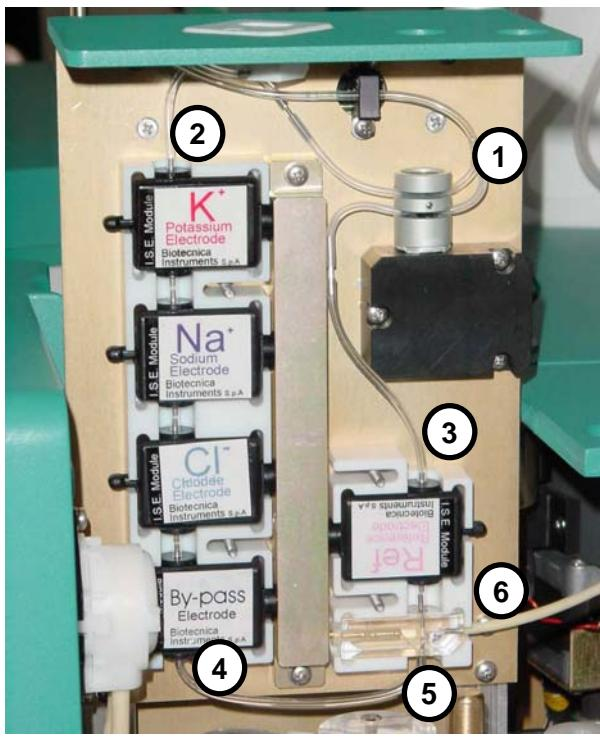

Figure 8
2. Disconnect the tubes **2, 3, 4, 5** and **6** (**Figure 8**) from the electrodes. Remove the housing containing measurement electrodes (K, Na, Cl, By-pass or CO₂) by gently moving leftwards (**Figure 8**). Remove the housing containing Reference and Ground electrodes by carefully moving it rightwards. Keep these housings in vertical position when electrodes are present.
4. It is recommended to immediately disconnect the first electrode (K) from the next one.
- c) At the end of this operation, release **tube 6 (Figure 8)** from the peristaltic pump and remove the tubes 1 from the pinch valve to avoid sticking and collapsing of tubes.
NOTE: In case the ISE module has the **Cl** and **CO₂** electrodes, then also disconnect the tube 2 connected to **K** electrode (see **Figure 8**).